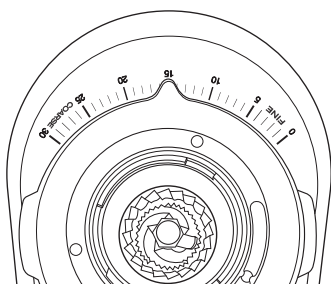

Figure 12
7. Rotate the grind adjustment collar to position 15 on the grind settings, see figure 12.
6. Rotate the grind adjustment collar to position 15 on the grind settings, see figure 12.